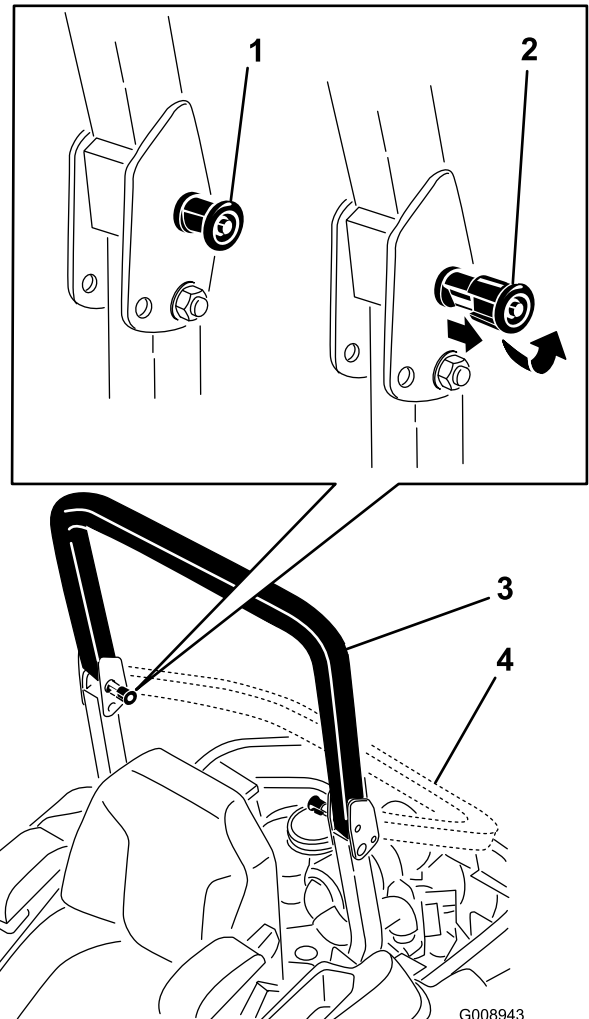

Figure 7
2. Pull both knobs out and rotate them 90° so that they are not engaged (Figure 7).
3. Lower the roll bar to the down position (Figure 7).
4. To raise the roll bar, raise the roll bar to the operate position, rotate the knobs so they move partially into the grooves (Figure 7).
5. Raise the roll bar to the full upright position while pushing on the upper roll bar and the pins will snap into position when the holes align with the pins (Figure 7). Push on the roll bar and ensure that both pins are engaged.